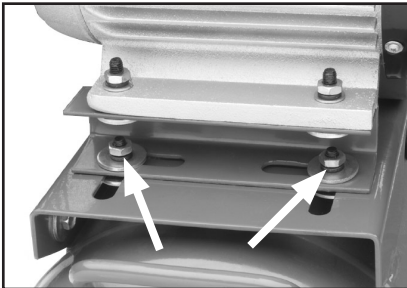

Figure 22. Motor mounting bolts.
2. Loosen the four nuts (one side shown in **Figure 22**) that secure the motor to the compressor frame so the motor can slide towards crankcase, relieving the tension on the V-belt.